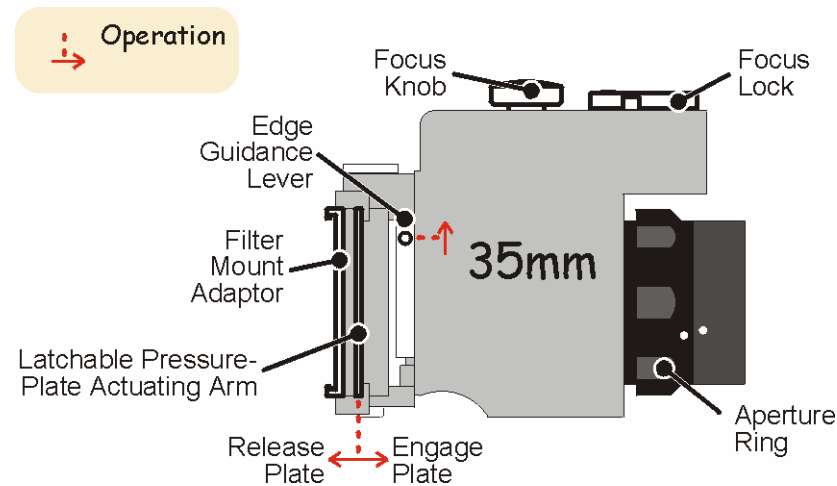
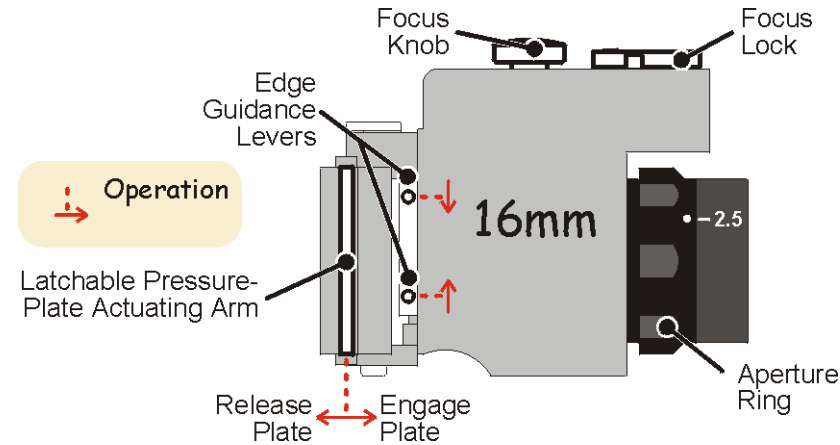

Figure 100 35mm/S35 Gate
Figure 101 16mm/S16 Gate
The Telecine can accommodate both 35/S35 and 16/S16 gates (shown in Figures 100 and 101 respectively). Provision is made to store one gate behind the Upper Control Panel.
- The aperture on the 35mm gate should usually be set fully open. To ensure that the gate aperture is set fully open, rotate the aperture ring to the end of its travel so that the dot on the ring is at its lowest point as shown in Figure 100.
- The lens on the 16mm gate should usually be set to 2.5. To ensure that the gate aperture is set to this position, rotate the aperture ring so that the dot on the ring is adjacent to -2.5 as shown in Figure 101.
Gates are fitted with edge guidance lever/s, one lever on the 35/S35mm gate (see Figure 100) and two on the 16/S16mm gate (see Figure 101). These are operated after film is laced through the gate to ensure the film is correctly seated on the skid plate.
A latchable plate is fitted to each gate that is used to apply a pre-determined down-force to the film as it passes over the skid plate. This is intended to be used as a focusing aid for bowed stock as it helps to flatten the film.. The plate is activated by the actuating arm shown in Figures 100 and 101.